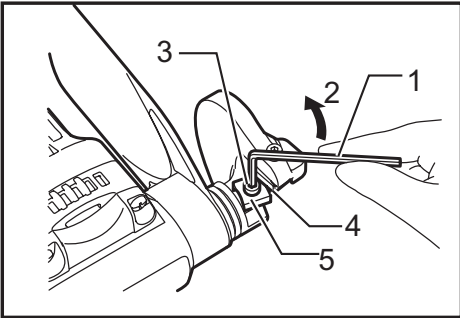

Fig.3
► **Fig.3:** 1. Hex wrench 2. Loosen 3. Upper blade securing bolt 4. Lower blade 5. Upper blade